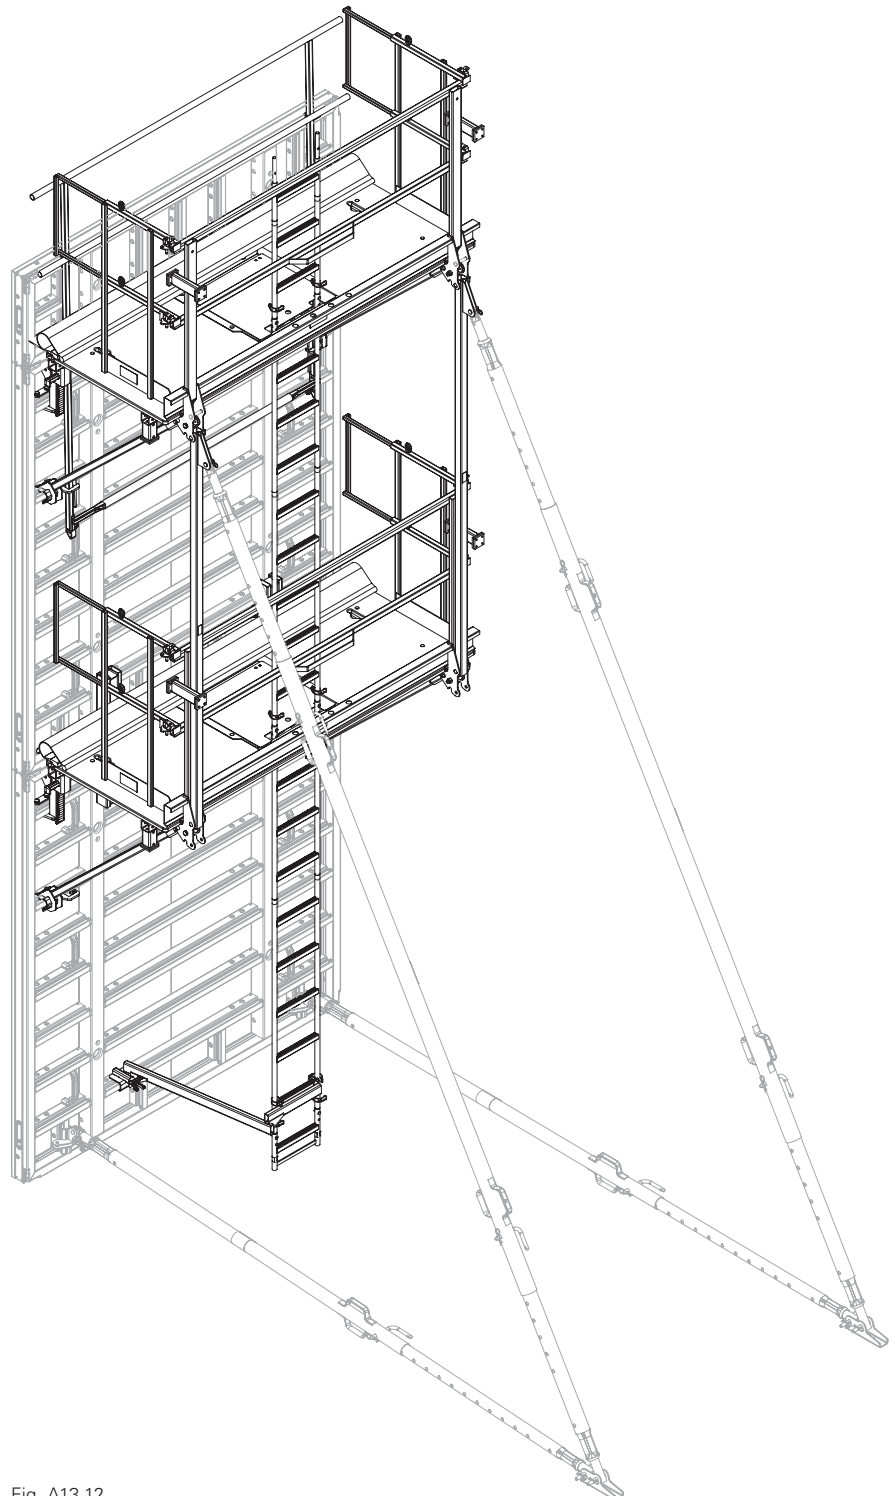

Fig. A13.12
- Shown: Height 6.00 m (Fig. A13.12)